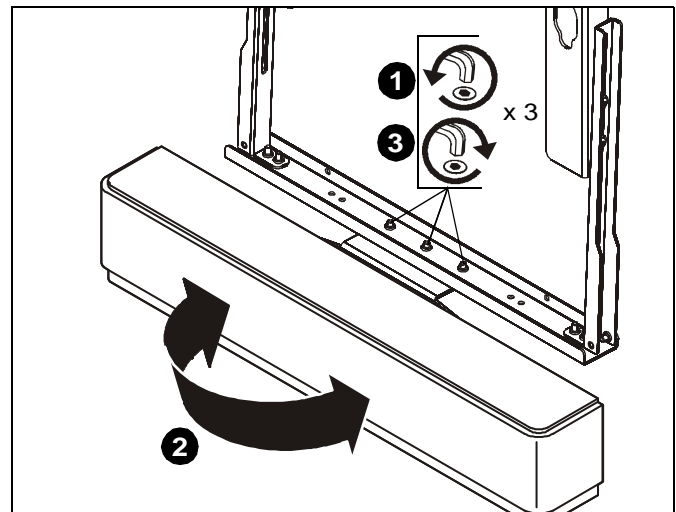

Figure 9
1. Loosen three button head cap screws securing speaker mounting bracket to horizontal bracket using 1/8" hex wrench (F) provided. (See Figure 9)
3. Tighten three button head cap screws securing speaker mounting bracket to horizontal bracket using 1/8" hex wrench (F) provided. (See Figure 9)